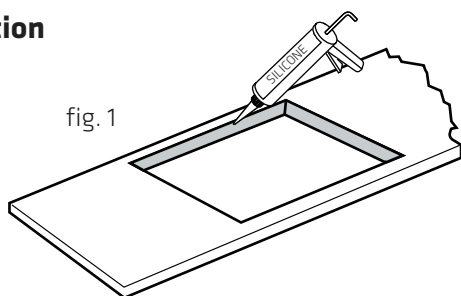

fig. 1
1. Cut the worktop opening to the specified dimensions (see fig. 1) using suitable tools. Seal all raw cut edges of the worktop with silicone or PTFE sealant and allow it to dry completely before installing the hob.